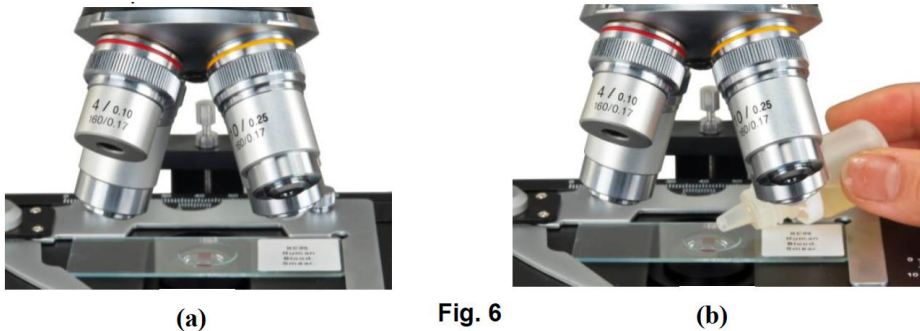

Fig. 6
- 1) Rotate the objective nosepiece to seat the observing position between the 40X and 100X objectives as shown in Fig. 6 (a).
- 2) Place a drop of immersion oil on the slide cover as shown in Fig. 6 (b).